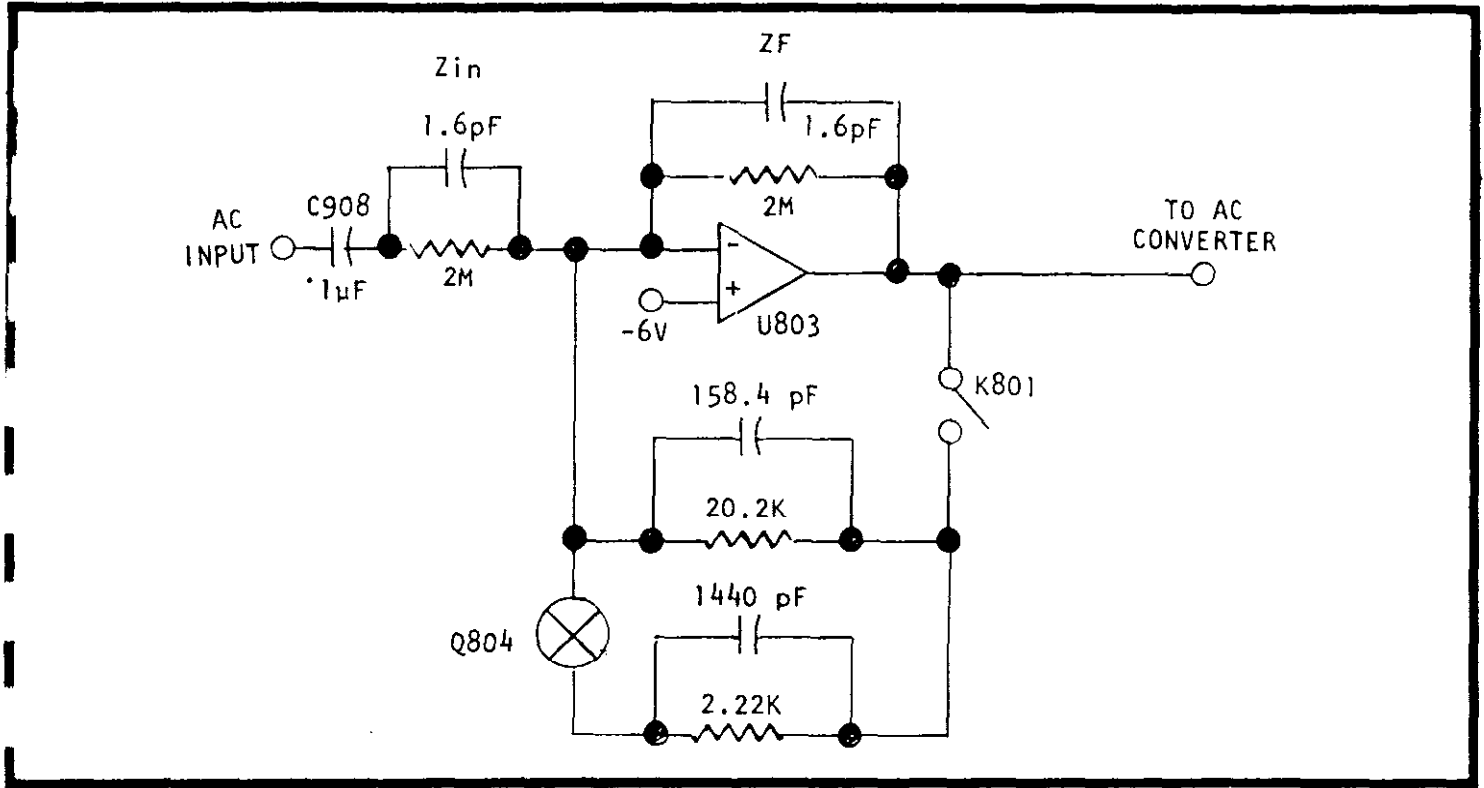

FIGURE 24. Simplified AC Attenuator Circuit.
2. The AC attenuator (Figure 24) is really a frequency compensated summing amplifier with maximum gain of unity. Its other gains are ± 100 and ± 1000 which are switched by relay K801 and FET Q804 respectively. RL line controls K801 and H line controls Q804 (see table 5-2).
4. The gain of the attenuator is $\frac{-Z_f}{Z_{IN}} = \frac{-R_f (1+j\omega R_i C_i)}{R_i (1+j\omega R_f C_f)}$. By making the RC time constant of Z_f equal to the RC time constant of Z_{IN} , the gain of the attenuator is constant with frequency, and equal to $\frac{-R_f}{R_i}$. This is true in the midband region. Low frequency is limited by RC time constant of C908 and R_{IN} (R818) and high frequency by U803. Nominal values of resistance and capacitance are shown in Figure 24.